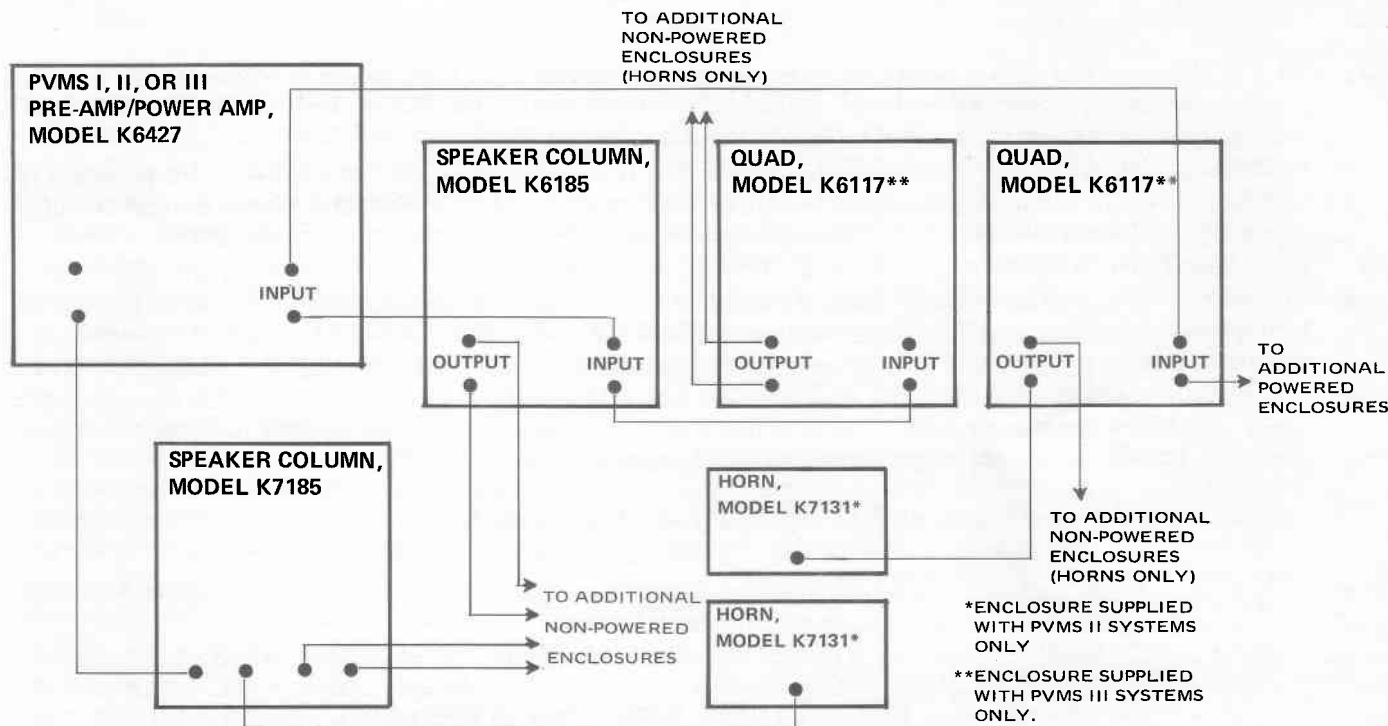

Figure 3. Typical Connections of PVMS I, II, or III System Components with External Enclosures
- Q. **INPUT JACKS (GREEN)** — The green INPUT jack allows more than one external powered enclosure to be connected in parallel (with standard 1/4-inch phone plugs and shielded cords) for increased output. To make these connections, first connect the amplifier INPUT jack (green) to the green INPUT jack of the first external powered enclosure as shown in figure 3. If a second external powered enclosure is to be connected, make a connection from the remaining green INPUT jack of the first external enclosure to the green INPUT jack of the second enclosure. Connections to additional powered enclosures can be made by repeating this sequence. A 1-volt input signal will develop a full 100-watt rms output from the K6428 amplifier.
- R. **OUTPUT JACKS (RED)** — The red OUTPUT jack can be used to drive any unamplified speakers, horns, or Ovation Freq-Lites (see figure 3). The red OUTPUT jack will accept a standard 1/4 inch phone plug with heavy, unshielded cord.
- V. **INPUT JACKS (GREEN)** — Two green INPUT JACKS allow more than one external powered enclosure to be connected in parallel (with standard 1/4-inch phone plugs and shielded cords) for increased output. To make these connections, first connect the amplifier INPUT jack (green) to the green INPUT jack of the first external powered enclosure as shown in figure 3. If a second external powered enclosure is to be connected, make a connection from the remaining green INPUT jack of the first external enclosure to the green INPUT jack of the second enclosure. Connections to additional powered enclosures can be made by repeating this sequence. A 1-volt input signal will develop a full 100-watt rms output from the power amplifier in the speaker column or the quad.
- W. **OUTPUT JACKS (RED)** — The two red OUTPUT jacks can be used to drive any unamplified speakers, horns, or Ovation Freq-Lites (see figure 3). The red OUTPUT jacks will accept a standard 1/4-inch phone plug with heavy, unshielded cord.
AD. OUTPUT JACKS (RED) — Four red OUTPUT JACKS are provided on the rear of the cabinet for connections with the red OUTPUT jack on a powered enclosure, and with any additional external unpowered enclosures as shown in figure 3. To make these connections, first connect the power amplifier OUTPUT jack (red) to the red output jack of the speaker column. To connect the second unpowered enclosure, make a connection from one of the remaining red output jacks on the speaker column to one of the red output jacks of the second enclosure. Connections to additional unpowered enclosures can be made by repeating this sequence. Use a standard 1/4-inch phone plug with heavy, unshielded cord to make connections.